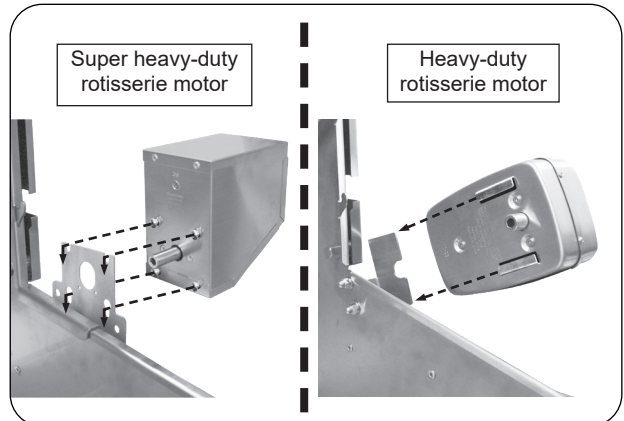

Fig. 37-2 Install rotisserie motor
2. Slide the rotisserie motor fully onto the motor bracket located on the right side of the grill (see Fig. 37-2) and connect it to a power source (do not turn on).